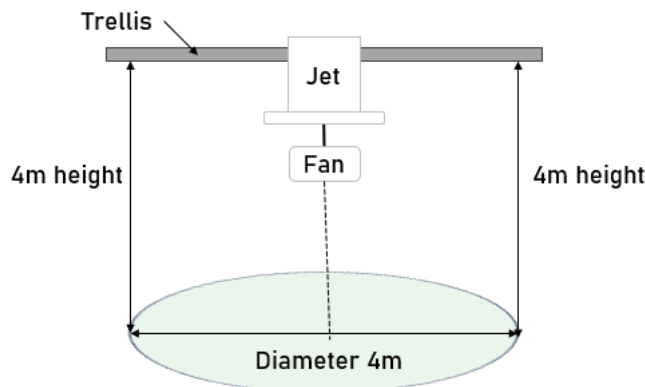

Figure 1 –ClimaFlow Fan and VentilationJet safety zone
The ClimaFlow Fan must be installed at a minimum 4 meters above the ground. The height needs to be ensured for an area with a diameter of 4 meters as shown in figure 1.
- Turn the VentilationJet or ClimaFlow fan off, if a person or animal will enter the safety zone (figure 1) with any part of their body.
- Ear protection should be used if the VentilationJet is operational, and you are within the safety zone (figure 1)